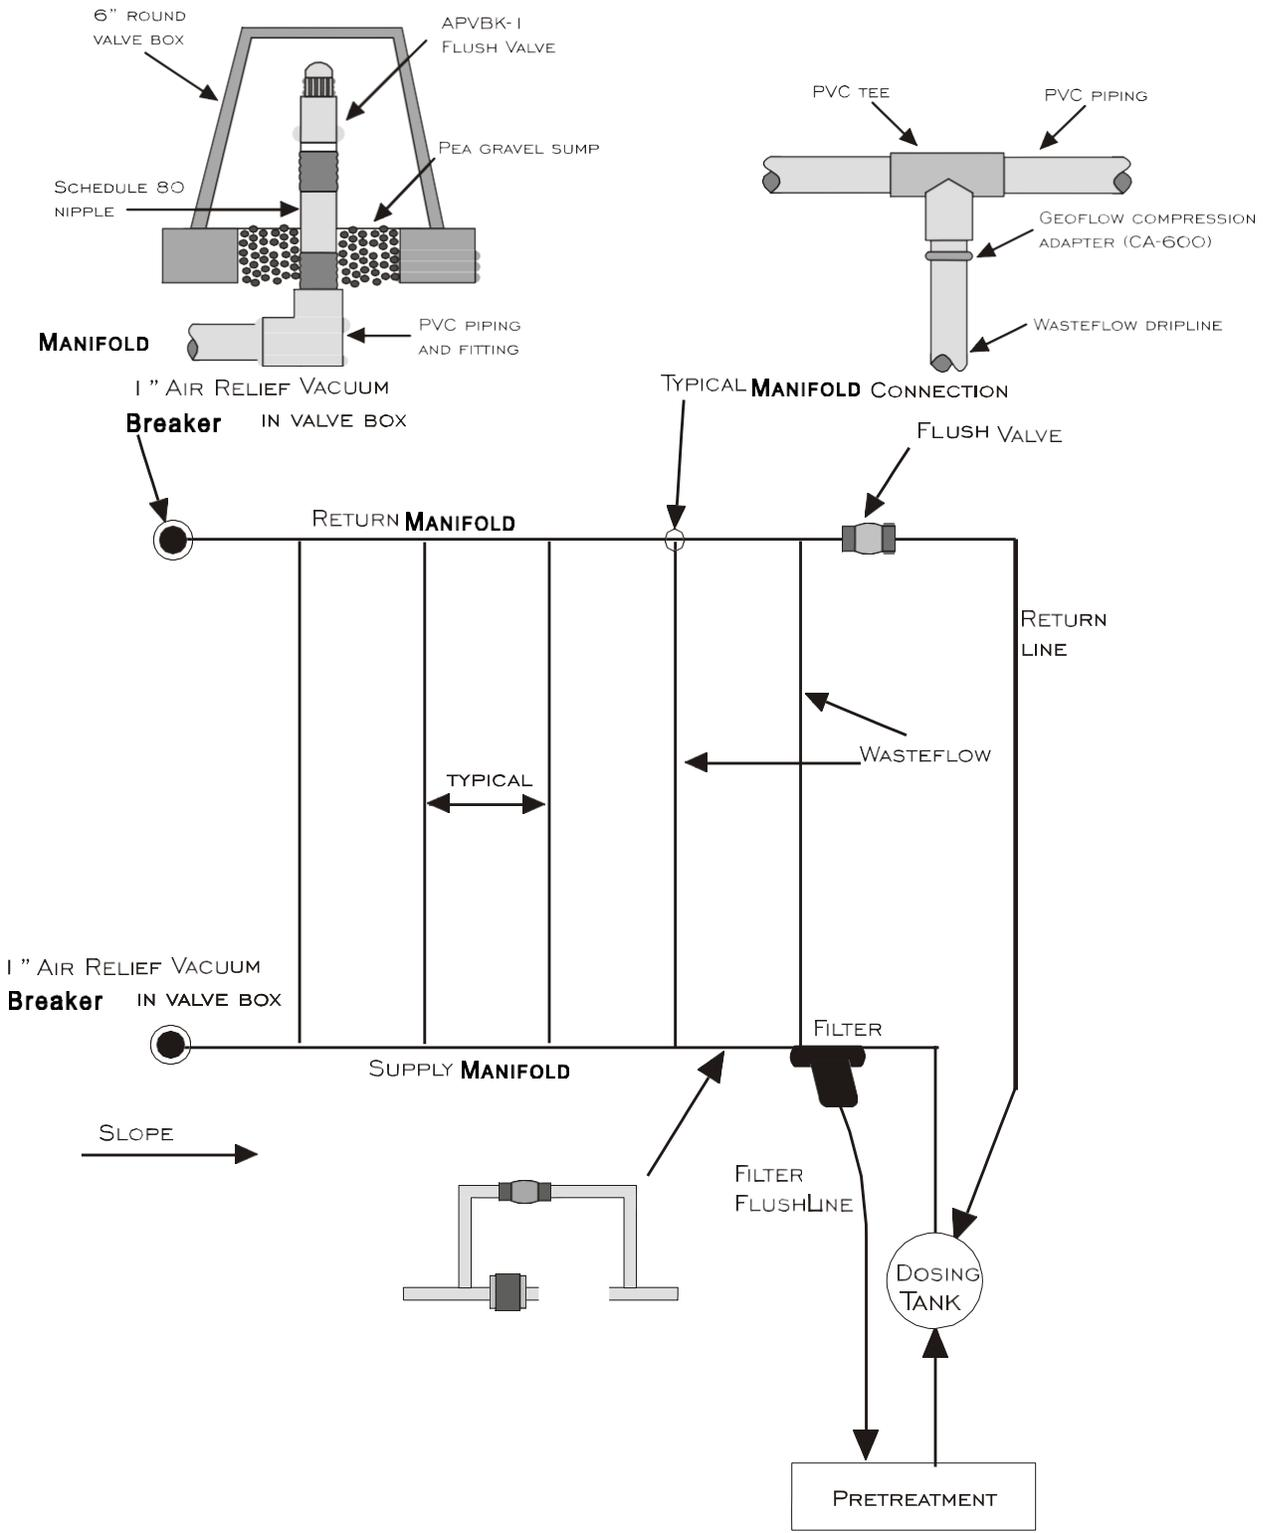

Figure 2. Typical Drip Field Layout
- On the supply side of the field, dig a trench at least 12 inch wide and 12-15 inch deep from the dosing tank to the bottom stake and then to the top stake on the same side. See Figure 2. Run the supply pipe from the tank to the field's lower corner of supply side.
- Place the supply manifold pipe in the trench and attach the dripline extending out of the trench wall to the pipe. Make this connection following the manufacturer's guidelines (see Figure 2).
- Install a vacuum breaker at the top of both the supply and return manifolds in accessible valve boxes with enough air space so debris could not be sucked into the line. See detail on Figure 2.